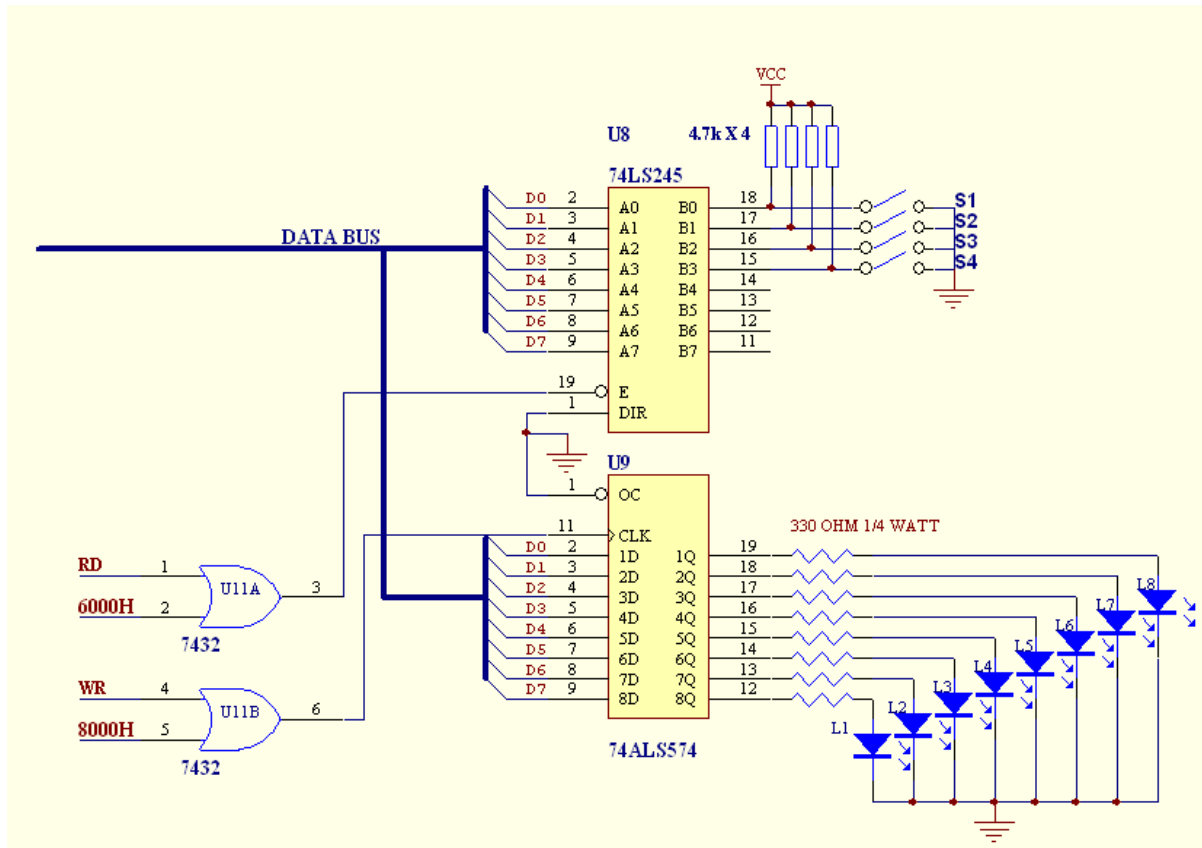

Figure 4/ Rajah 4
- c) Build the assembly language program that detects the condition (logic status) of switches and configures the LED lit pattern based on the **Table 4** and **Figure 4** below. If an external interrupt 1 (INT1) occurs by detecting a HIGH-to-LOW transition at P3.3, only one led will lit and blink 5 times. (C3)